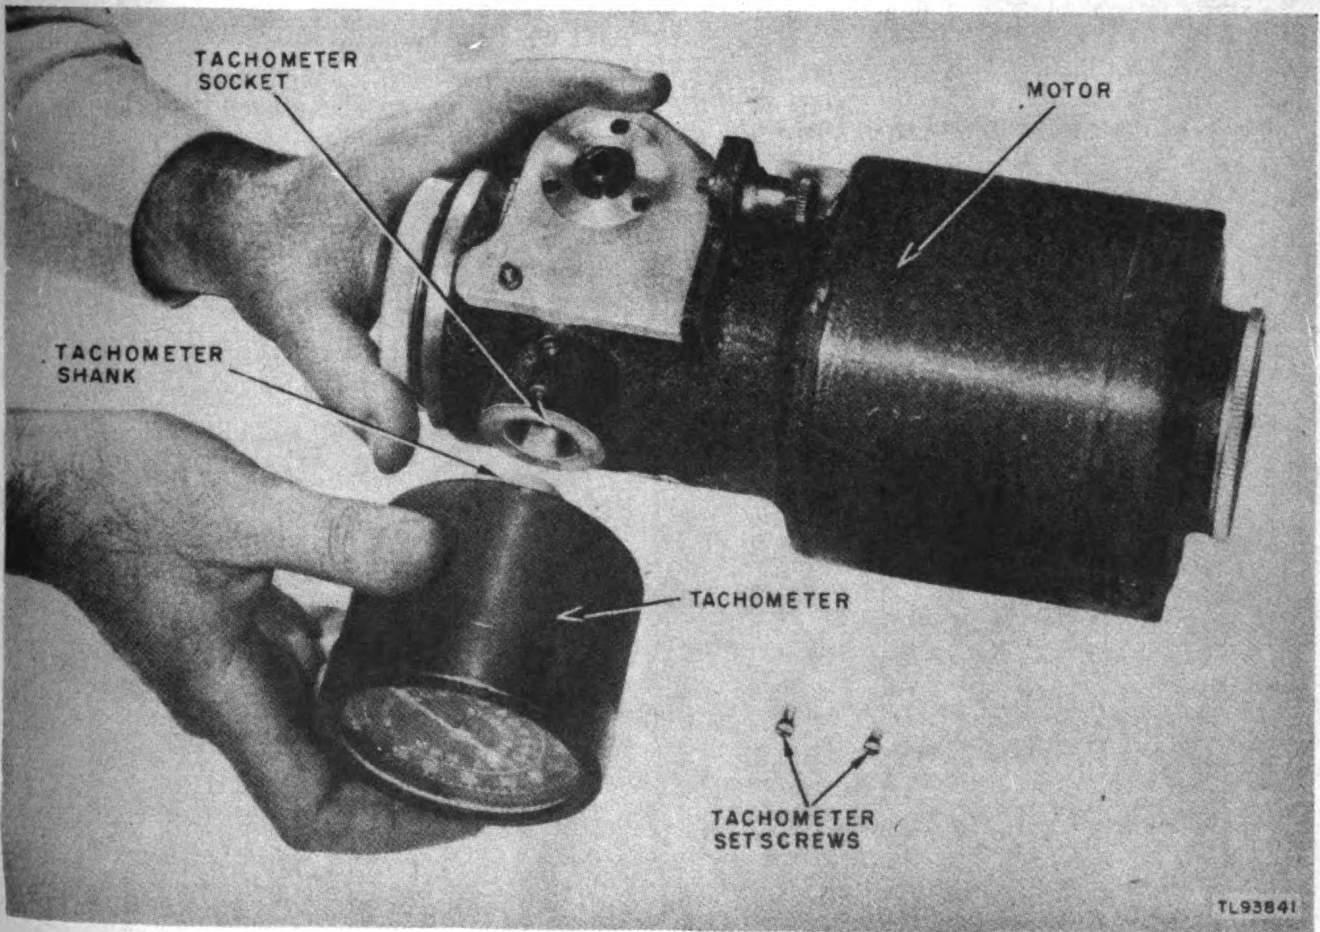

Figure 134. Installing tachometer.
74. Replacing Tachometer (fig. 134)